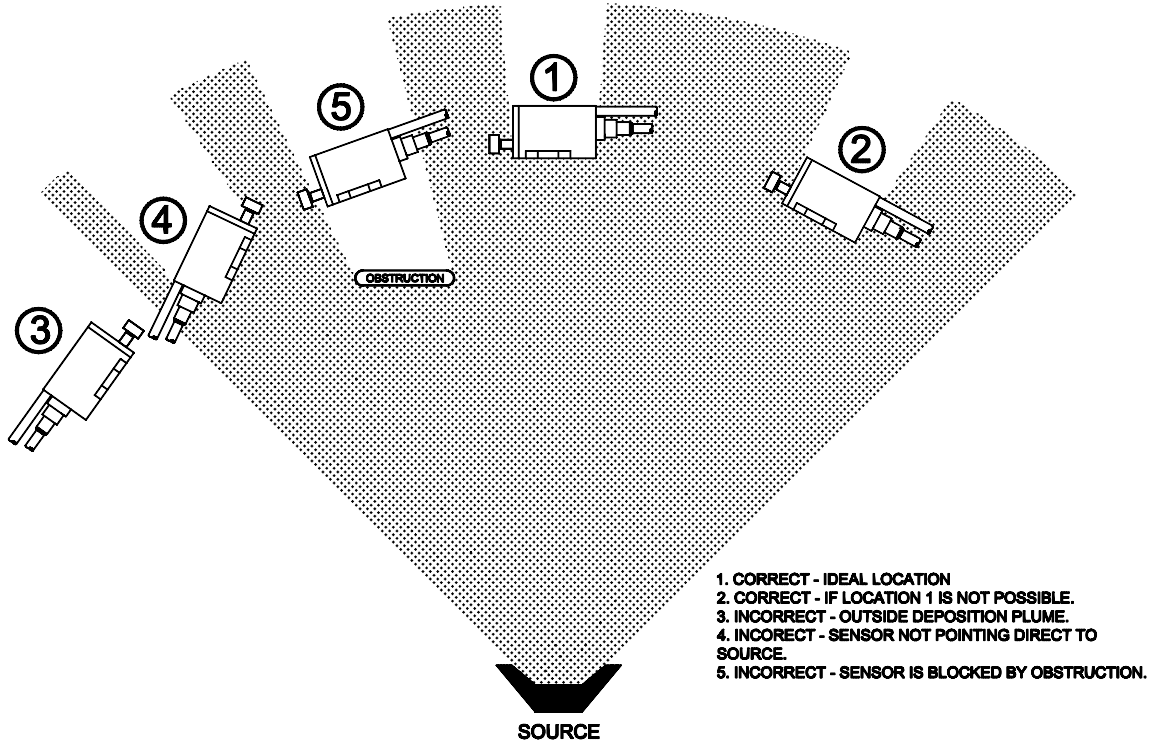

Figure 1 Mounting Location Consideration
Figure 1 depicts the do and don't when choosing a location to mount the sensor head.
1. Using your thumb and index fingers, gently squeeze the sides of the retainer at mid section then lift it up, away from the drawer, as shown in Figure 1.